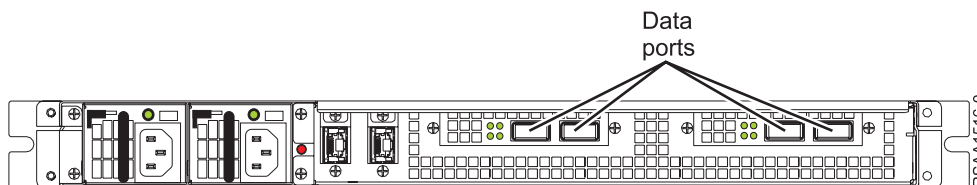

Figure 1. Fibre Channel or InfiniBand port locations
Connect the Fibre Channel (FC) ports on the storage system to your server or to a FC switch. If your storage system has InfiniBand ports, connect them to an InfiniBand switch or Host Channel Adapter (HCA) in your server. Figure 1 shows the port layout for the storage system. Each controller has two FC ports: A and B, on the left and right respectively. The FC ports on the system are capable of connecting to Point-to-Point (N-Port), Arbitrated Loop (NL-port), or Switched Fabric (F-Port) topologies at 2-Gb, 4-Gb, or 8-Gb speeds.
Although Figure 1 shows FC controller cards, an InfiniBand controller card can occupy either of the same slots as the FC controller cards. The InfiniBand controller card has two x4 ports: A and B, on the top and bottom respectively. The InfiniBand ports are capable of connecting to Quad Data Rate (QDR), Double Data Rate (DDR) or Single Data Rate (SDR) HCAs using the SCSI RDMA Protocol (SRP).